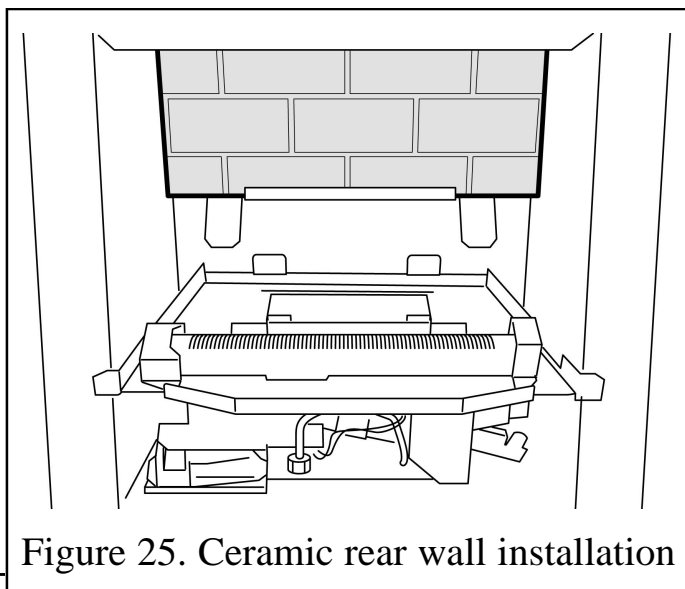

Figure 25. Ceramic rear wall installation
1. Fit the ceramic rear wall inside the "L" bracket on the back face of the burner compartment. Push the ceramic wall flat against the back face of the burner compartment (See figure 25).